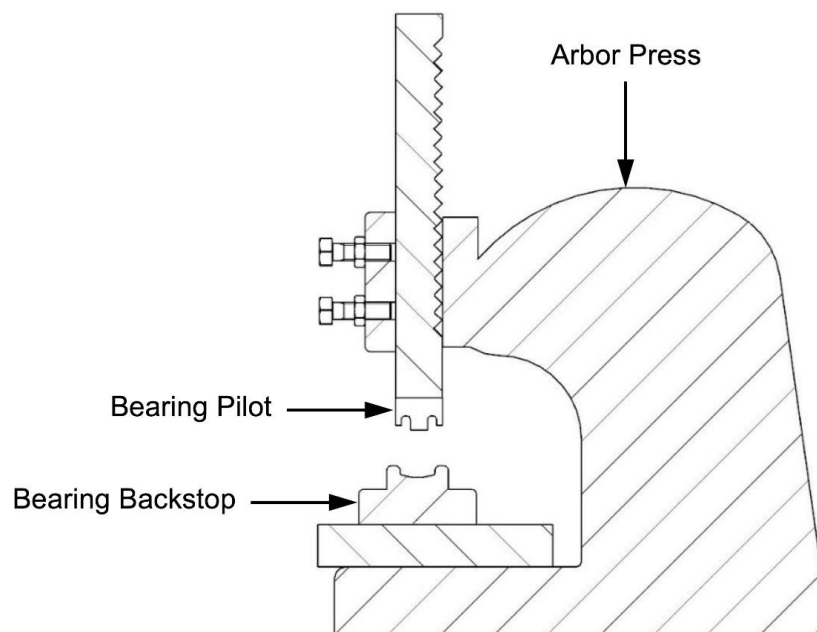

Figure 5. Cross-section View of Arbor Press Configuration for Bearing Installation
- 2.2.4 Place the opposite surface of the blade against a backstop (ref. Figure 6). Reference Figure 5 for arbor press setup.